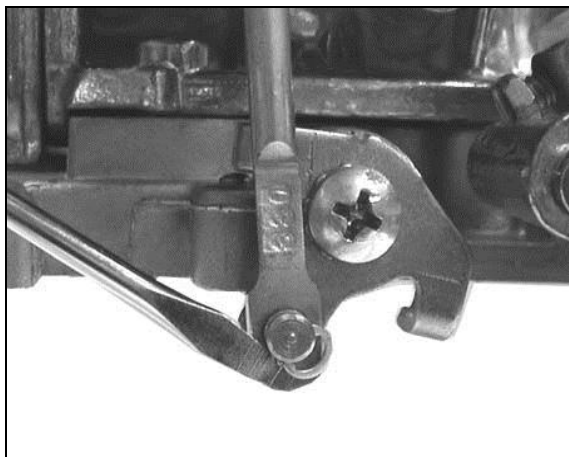

Figure 15
3. Remove the clip retaining the diaphragm plunger to the secondary throttle lever using a small flat-blade screwdriver (Figure 15).